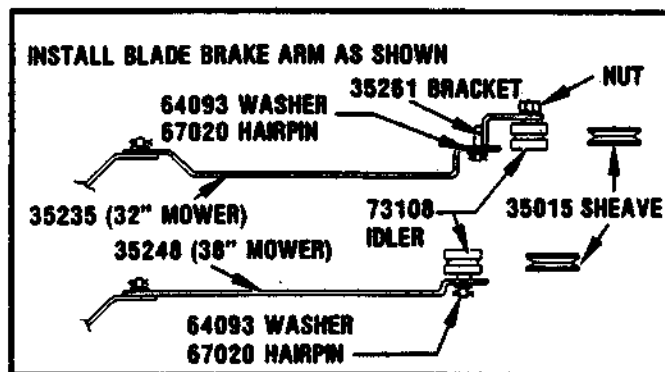

FIGURE 13
19. Attach mower brake link to stud under attachment idler and secure with hairpin. See Figure 13.